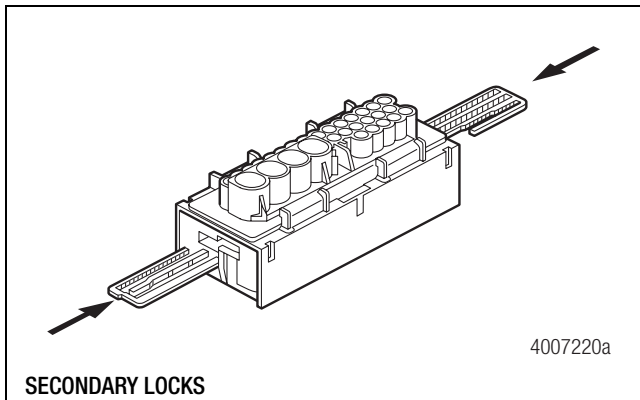
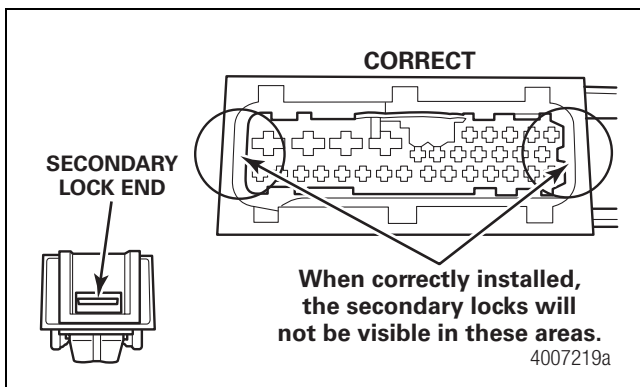
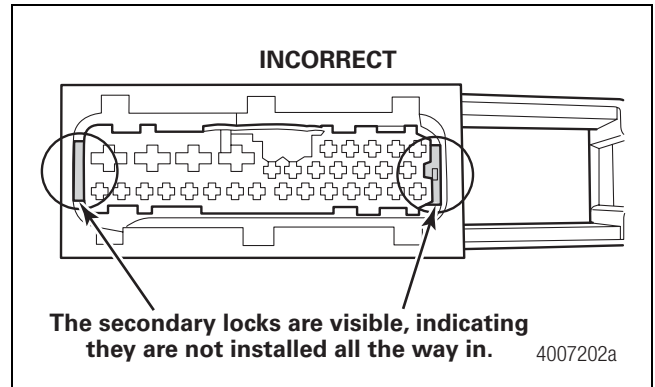

Figure 2
Figure 3
Figure 4
- View the terminal side of the 31-pin connector. Check for correct installation of the two secondary locks installed at opposite sides of the connector. The secondary locks assist in securing the terminals in the connector shell. Correct installation of the secondary locks is critical for correct seating of the connector on the HCU ECU. Figure 2, Figure 3 and Figure 4.